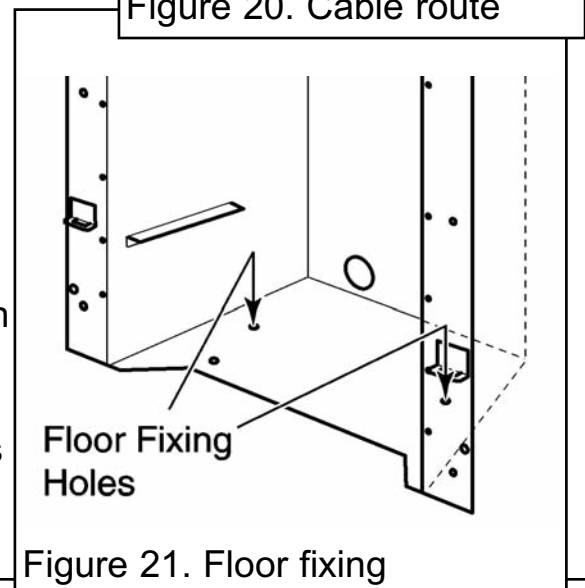

Figure 21. Floor fixing
8. Drill a hole into the fireplace floor through each of the two holes in the base of the hotbox using a suitably sized masonry drill for the fibre / wooden plugs supplied (See figure 21).